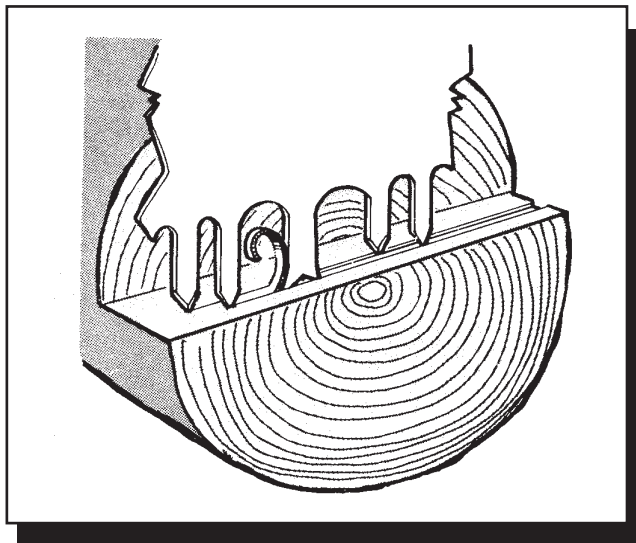

Figure 5-6—How a crosscut saw cuts.
**Cutter Teeth**—All saws, regardless of the tooth pattern, are made up of two rows of cutting edges. The saw releases wood fibers on each side of the kerf as it passes through a log (figure 5-6).